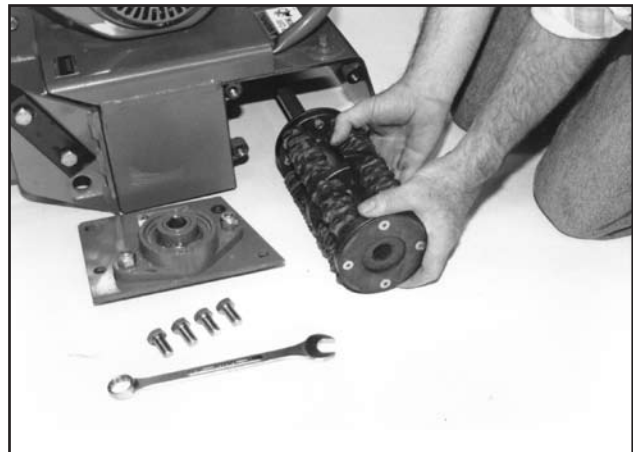

FIGURE 21
3) Using the wrench, remove the four (4) 1/2 inch diameter x 1 inch long capscrews and flat washers securing the drum access plate to the main frame.
6) Install the loaded flail drum on the driveshaft. If utilizing the milling flails or other flail configurations that are unidirectional, determine that the flails are facing the direction of rotation. FIGURE 21.